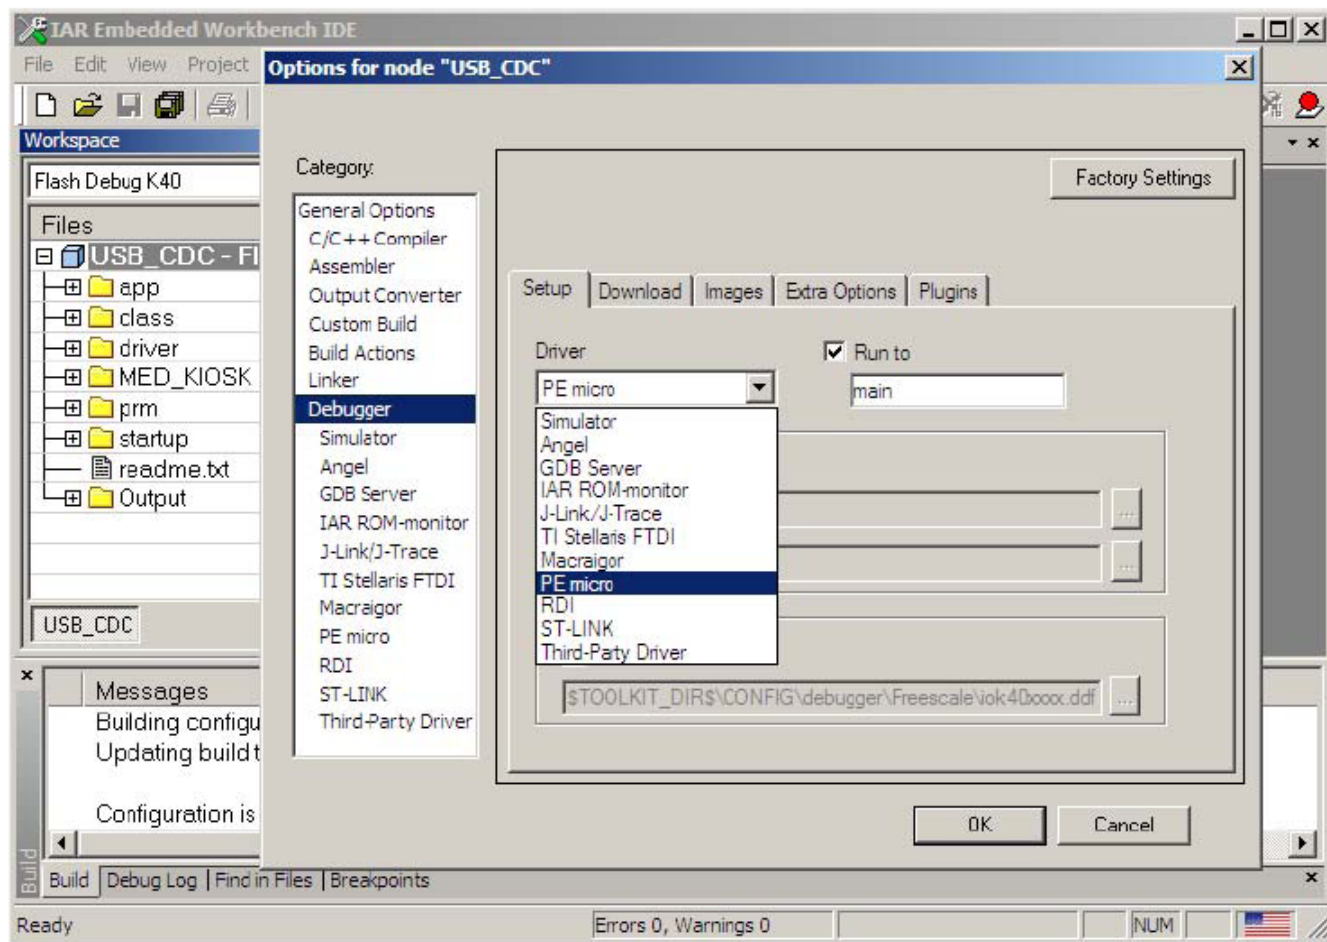

Figure 19. Debugger selection
2. Choose Menu > Project > Options to open the project and verify the debugger in the project options panel. Select the category Debugger and check that PE micro is selected (Figure 19).